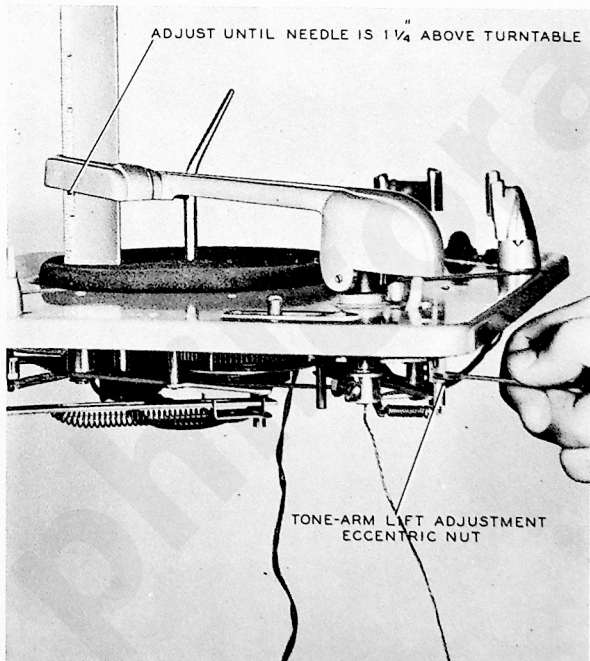

Figure 7. TONE-ARM LIFT ADJUSTMENT
**TONE-ARM LIFT ADJUSTMENT**—Without using a record, place the changer in automatic position; do not turn the motor on. Bring the tone arm into the center to actuate the trip. Manually revolve the turntable  $1\frac{1}{4}$  turns. At this point, the needle should be  $1\frac{1}{4}$ " above the turntable. Adjustment is made by turning the eccentric nut on the tone-arm elevating assembly, figure 7, until the proper height is obtained.